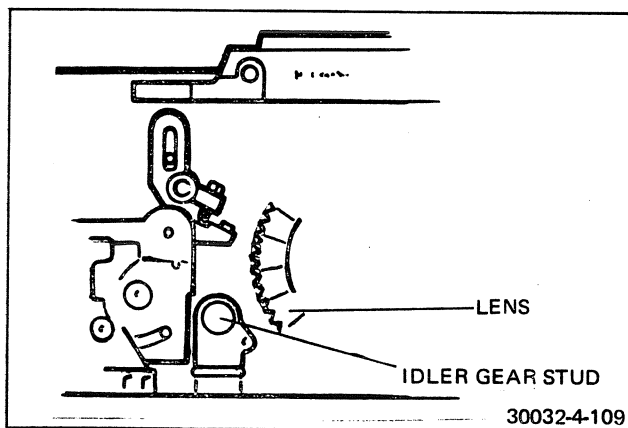

FIGURE 4-109 IDLER GEAR LOCATION
22. Remove the idler gear (see Figure 4-109).